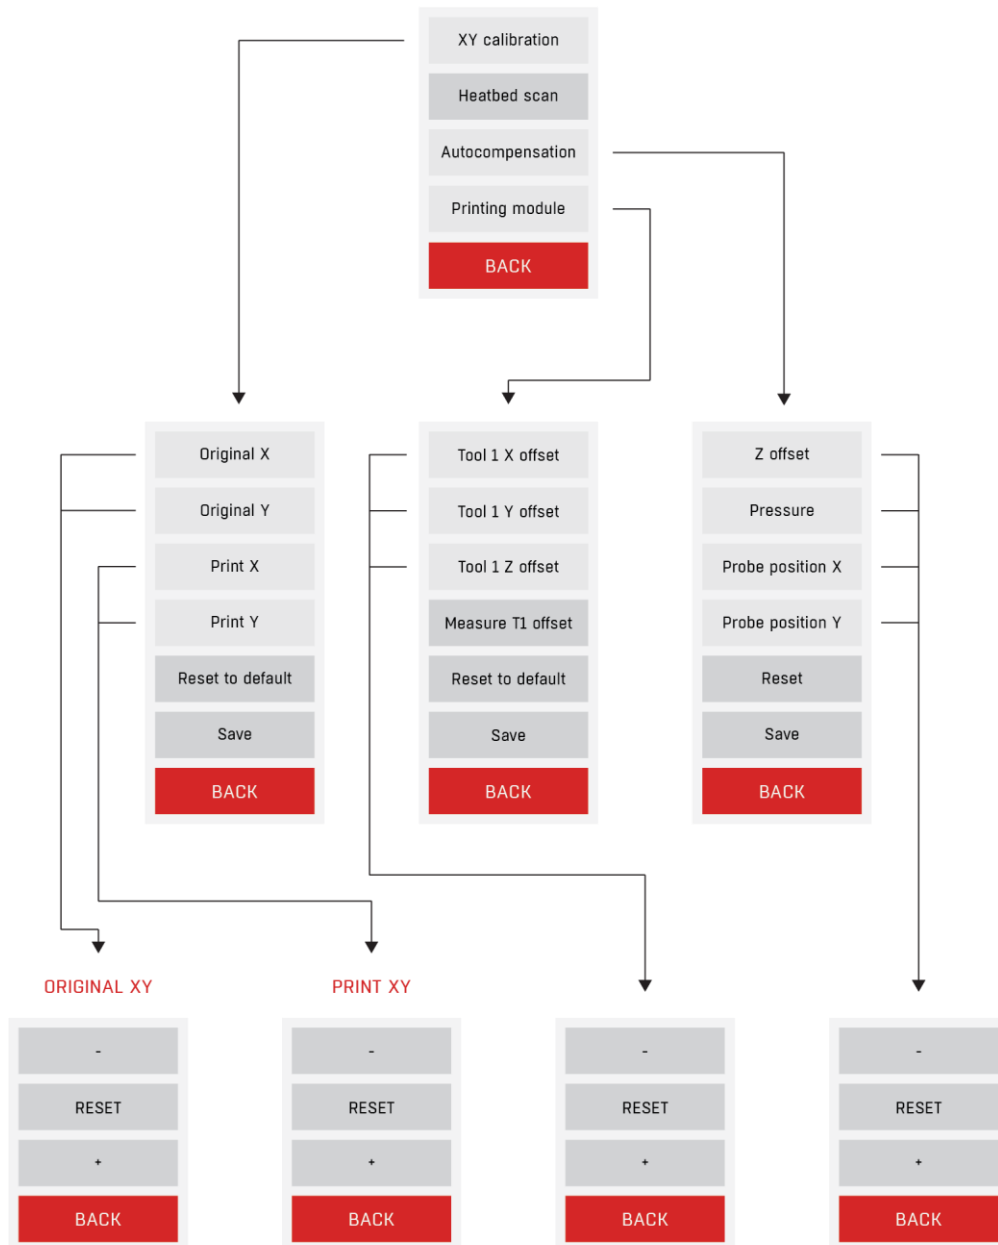

Fig. 52 Calibration menu structure
- calibration menu (CALIBRATION) – fig. 52,